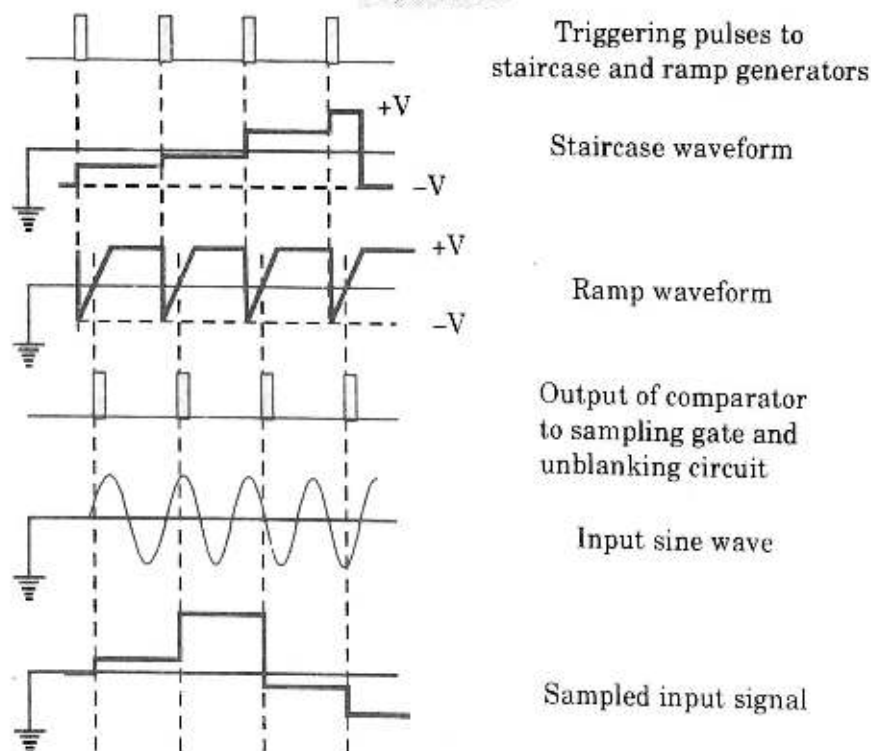

Fig. 4.11.2. Waveforms of sampling oscilloscope.
- For frequency measurements in the megahertz range, a heterodyne wave analyzer construction is used, as shown in Fig. 4.11.2.